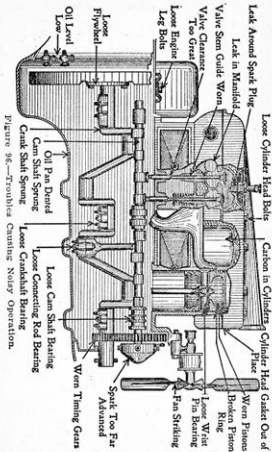

Figure 96.—Troubles Causing Noisy Operation.
5. Engine is noisy. Figure 96.